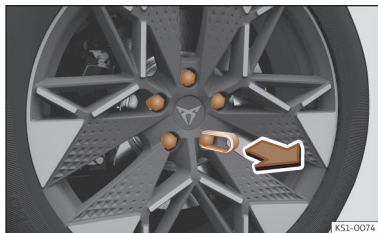

Fig. 202 Wheel: wheel nuts with caps.
- Fit the plastic clip (vehicle tools >>> page 300) over the cap until it clicks into place >>> **Fig. 202**.